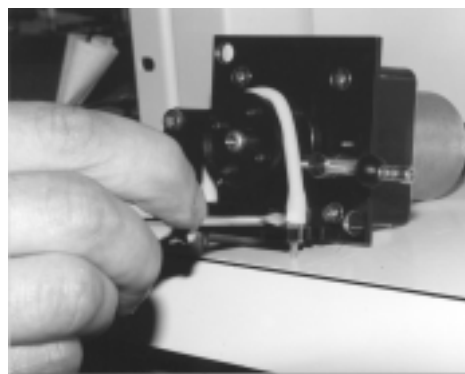

Figure 12.1.2b
2. Swing the pressure block back and remove the two tube sets from the rollers by unsnapping the fittings from the front of the pump. Use a small flat-blade screwdriver for this. Refer to Fig. 12.1.2b and c.